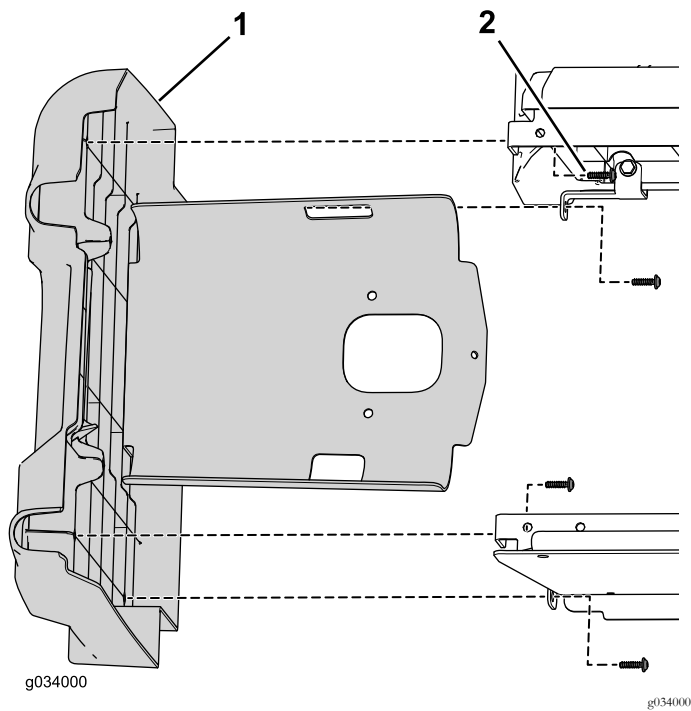

Figure 3
6. Remove the 4 screws securing the left panel to the lower-seat assembly (Figure 3).